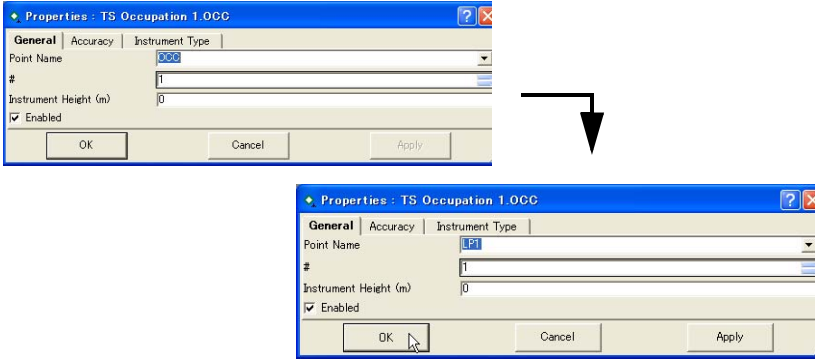

Figure 5-15. Edit Point Name
- On the **Properties** dialog box and the **General** tab, edit the point name and click **OK** to save the information (Figure 5-15).